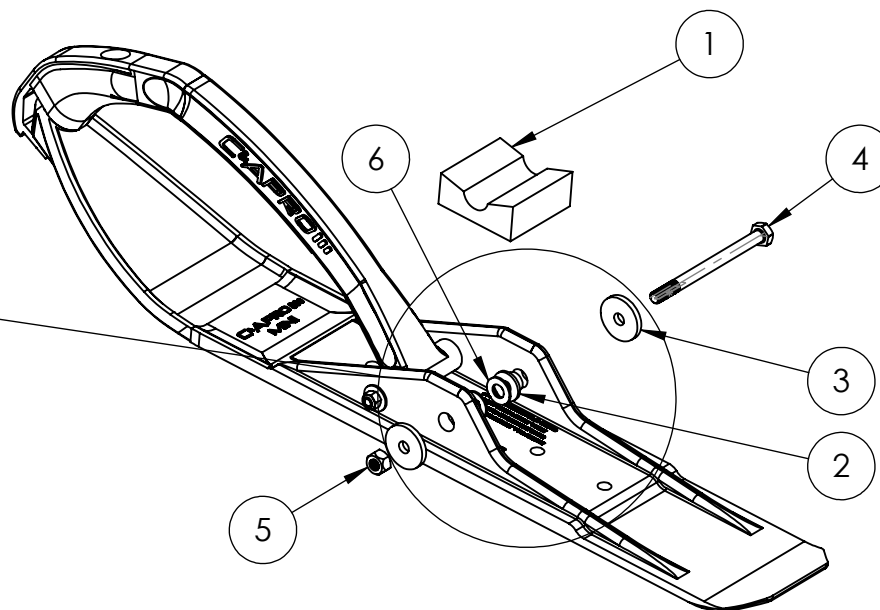

Figure 2
The tall side of the rubber dampener goes towards the back of the ski. (see Figure 2)
7. Use provided 10mm Bolt, Nut and 2 Washers to affix the ski to the spindle. (Figure 2)